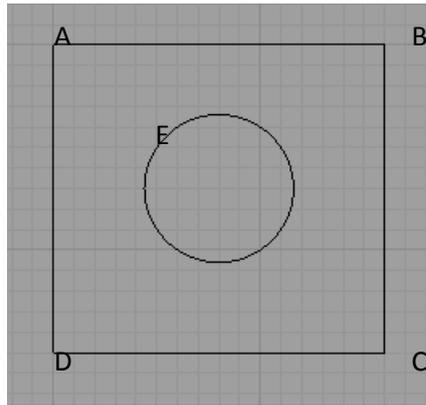

Figure 15. Combining objects.
3. **Stitch:** Let's take an example shown in Figure 15. Initially the lines AB, BC, CD, DA, and circle E are all separate. Separate means they can be selected and edited individually. However, **Stitch** will group all of them to be one so that all can be selected at once. This function is useful when the user wants to edit or assign the same property and/or boundary conditions to all the objects as once.
4. **Join**: This tool functions similar to **Stitch** except that it only groups the connected lines. For the example shown in Figure 15, **Join** can group the lines AB, BC, CD, and DA to one, but not the circle.